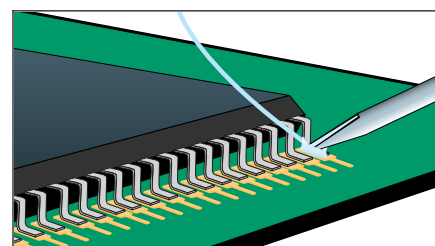

Figure 2 Flux & Tack 2 Corner Leads
5. Flux and tack the leads at opposing corners to fix the component to the board. (See Figure 2.)